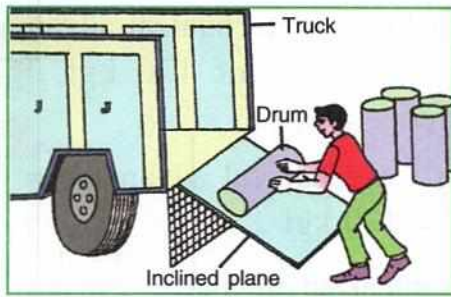

Fig. 4.18 An inclined plane used by a coolie to load a truck with drums
1. A coolie while loading a heavy drum on a truck uses a wooden plank. One end of the plank is kept on the edge of the truck and the other end on the ground as shown in Fig. 4.18. He then pushes the drum along the sloping surface and places it on the truck.